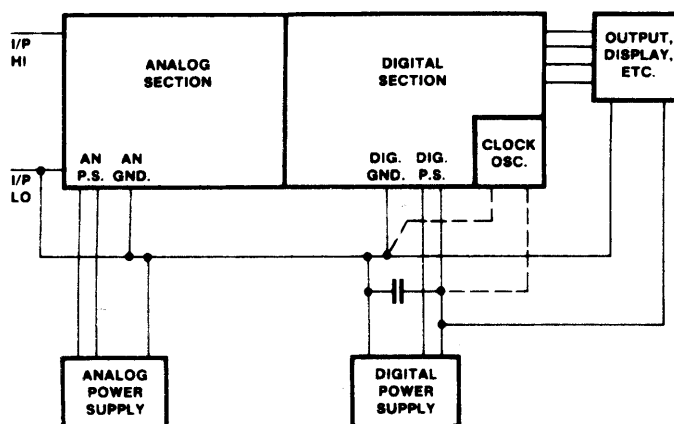

FIGURE 8.
- This symptom is typically a result of grounding problems or digital signals coupled to analog lines. Connect pin 11 (analog ground) to the 100k Ω resistor at signal input. If the offset disappears, the problem is a result of IR drops in the ground line. Reconnect ground lines similar to Figure 8.